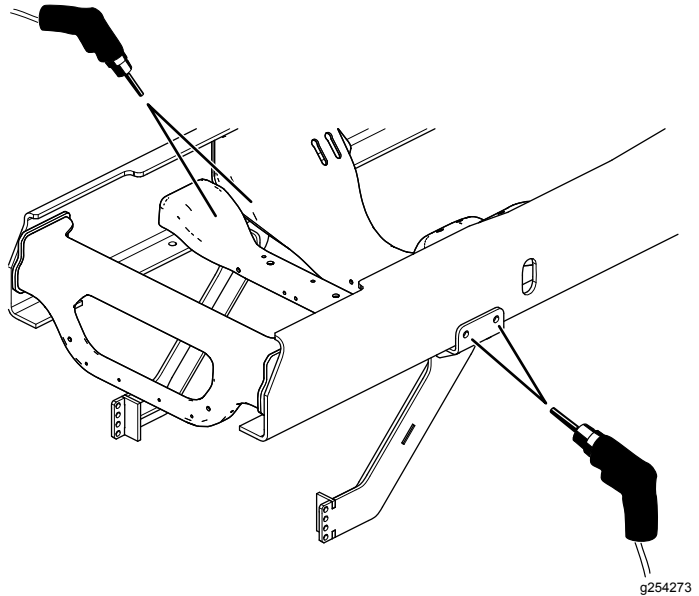

Figure 4
- Using the angle bracket as a guide, drill out the 4 holes in the vehicle frame to 11/16 inches (Figure 4).